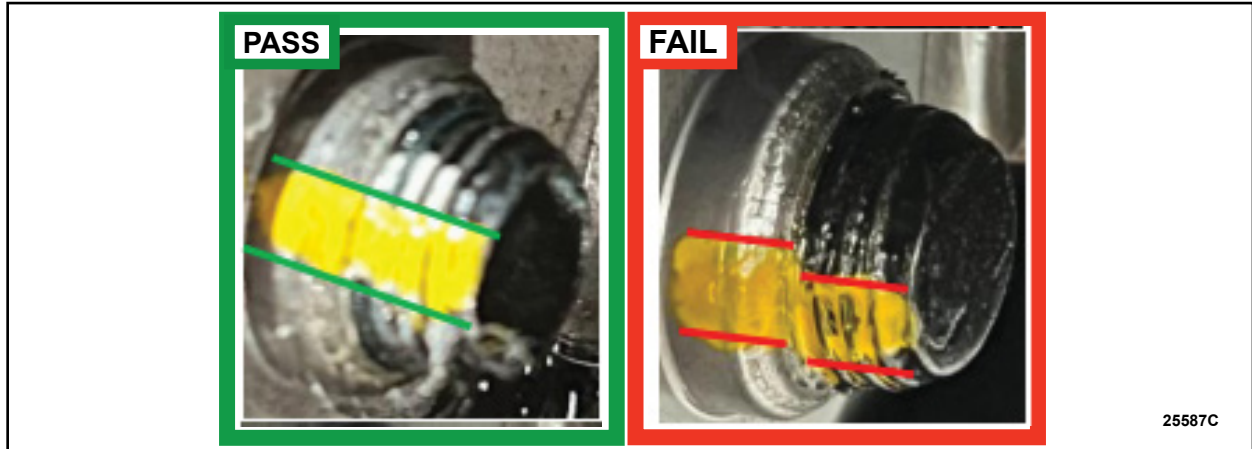

FIGURE 3
5. Inspect the paint mark on the threads of each pivot bolt for movement. Did any of the bolt's paint mark move? See Figure 3.